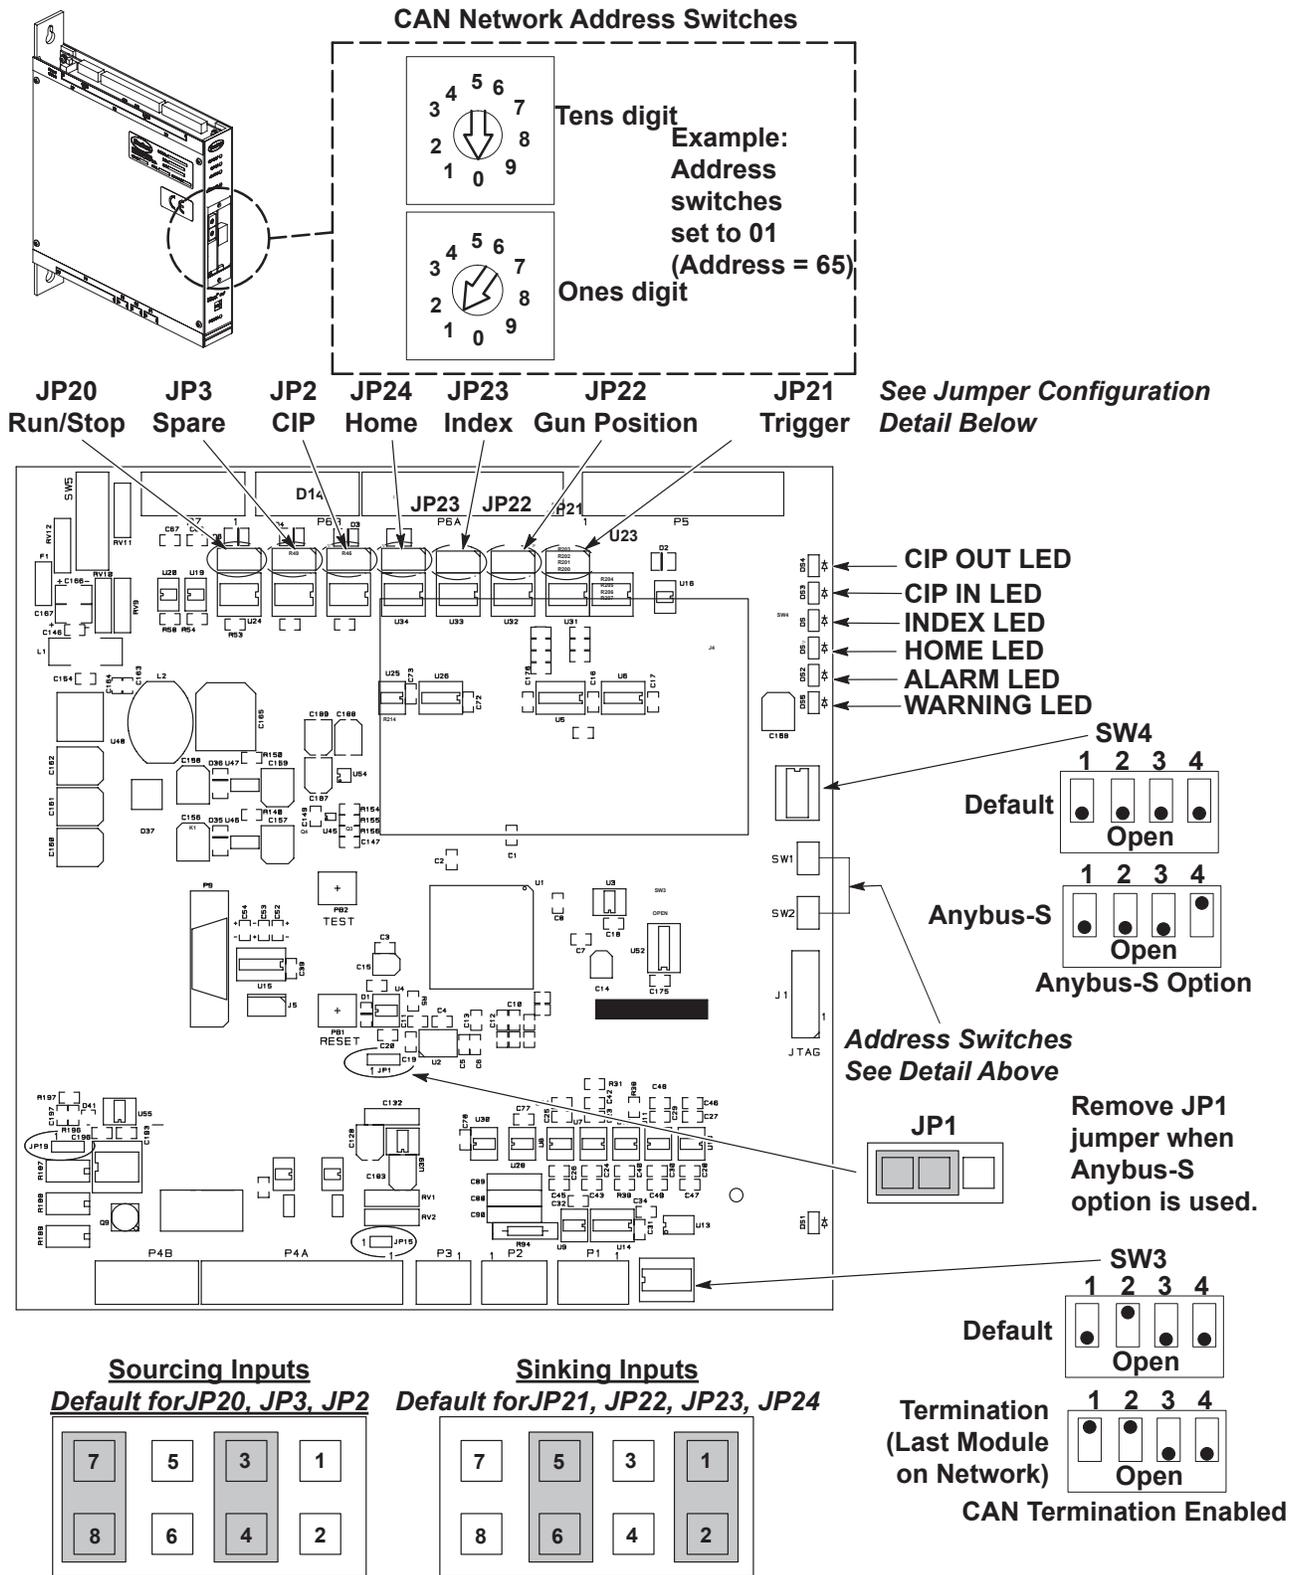

Figure 3 PRx II Circuit Board Switches and Jumper Settings
1. See Figure 3. Using a screwdriver, remove the access plate on the front of the PRx II module.
3. Last Module in the iTRAX CAN Only: The last module on the CAN must be terminated. If the module is a PRx II module, close switch SW3 position 1 to terminate the network (see Figure 3). This switch is accessible from the bottom of the PRx II module.